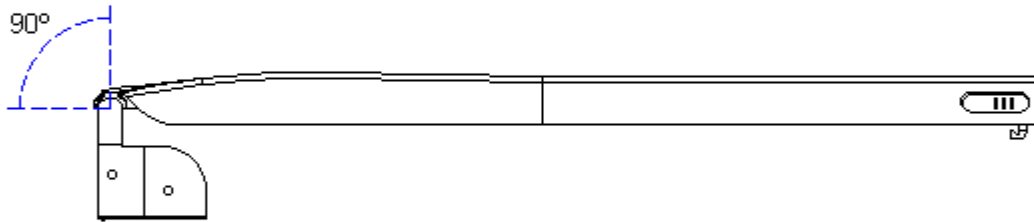

Figure 3-177. Positioning Display Clutches (All Models)
26. Position the display clutches at a 90-degree angle (Figure 3-177).